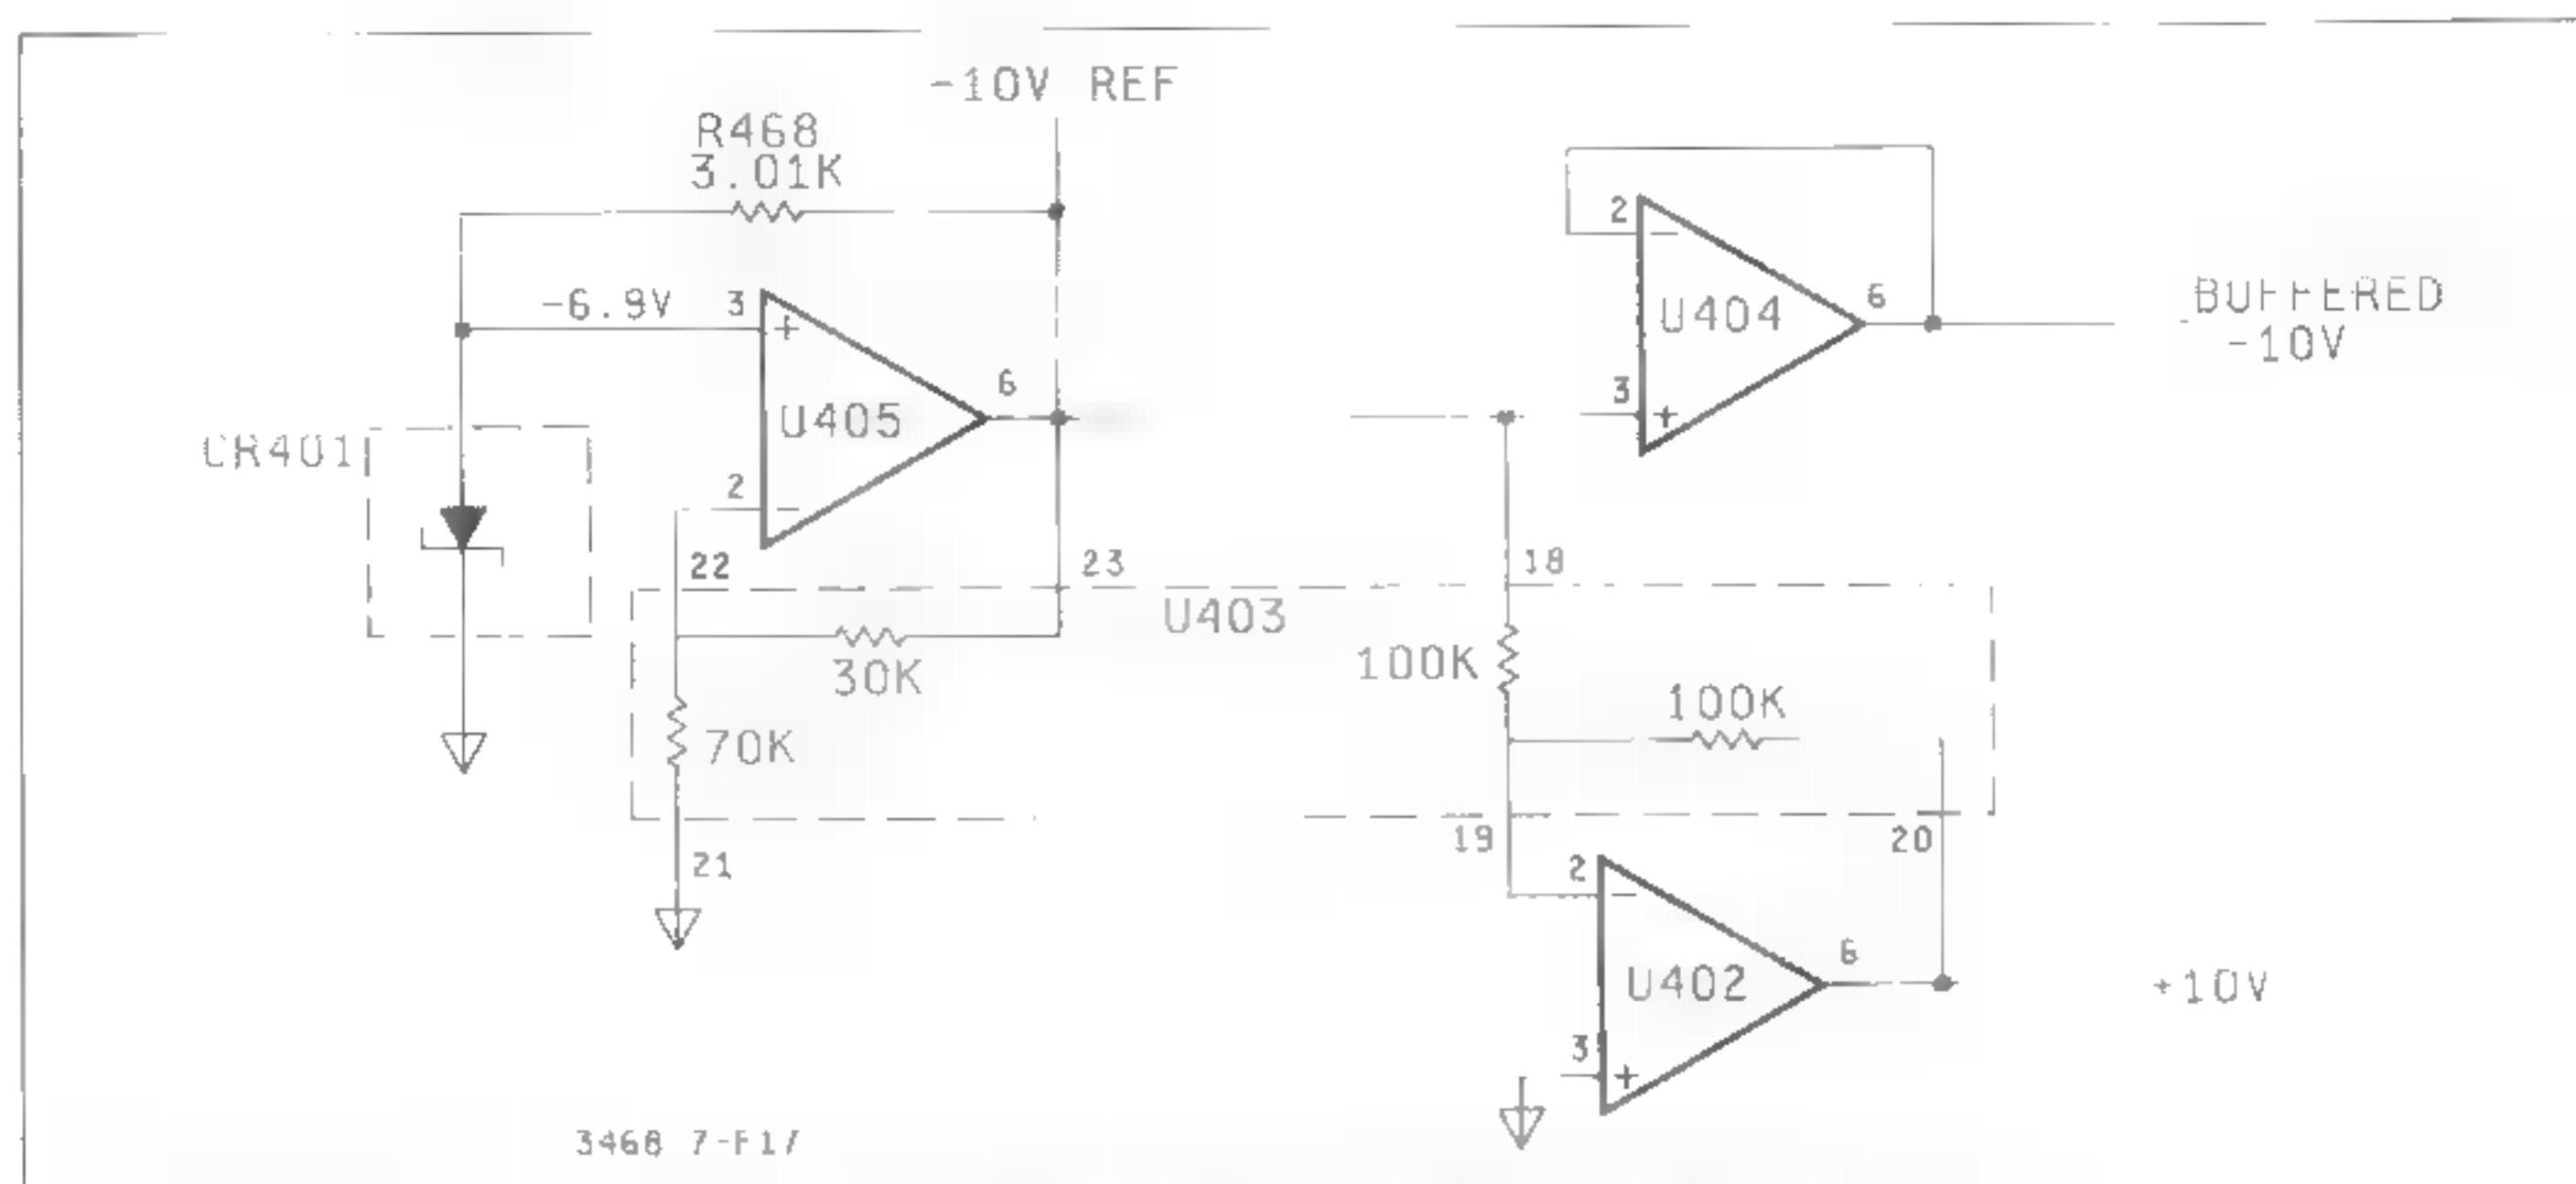

Figure 7-F-17. 3468A Simplified Reference Circuitry
d. **Voltage Reference.** The Voltage Reference provides three stable reference voltages: -10V, +10V, and a buffered -10V. The circuitry, shown in Figure 7-F-17, is explained as follows: